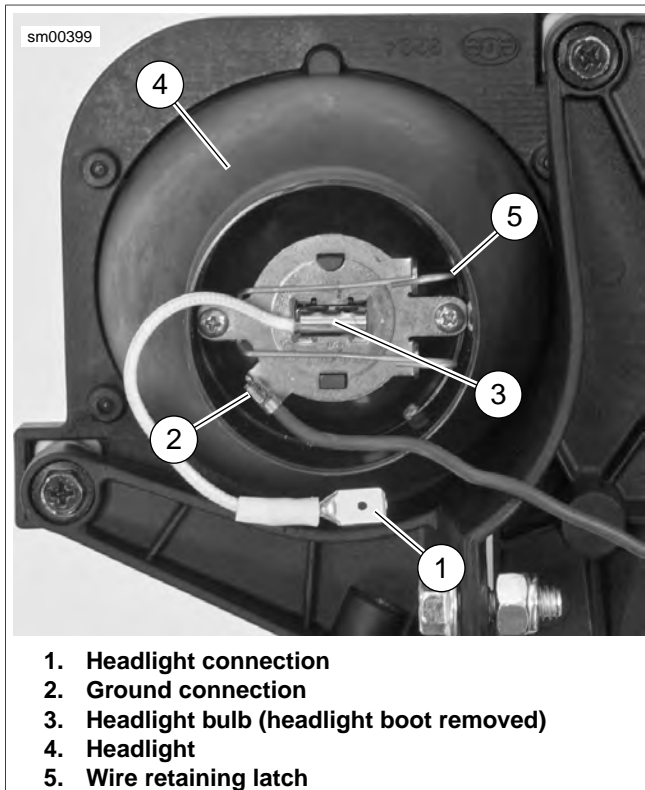

Figure 6-64. Headlight Bulb: Firebolt
2. See Figure 6-64. Disconnect headlight connection (1).
4. Release wire retaining latch (5) from headlight housing clips.
1. See Figure 6-64. Align tabs on bulb (3) with tabs on headlight (4). Insert bulb.
2. Close the wire retaining latch (5).